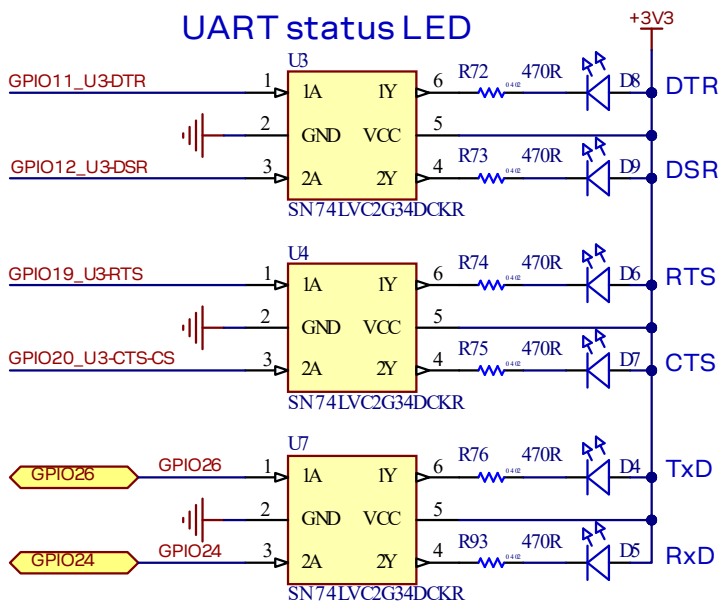

Figure 19: Schematic – UART3 status LED
- UART3 status (**D4-D9**): Indicate UART3 signal status under GPIO control, as shown in Figure 19.